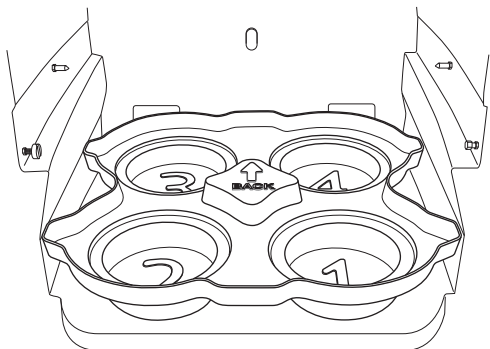

Figure 2-4 Installing the locating base
2. Slide the locating base into the bottom of the refrigerated compartment (Figure 2-4). Note that the arrow must be pointing toward the back of the refrigerator.